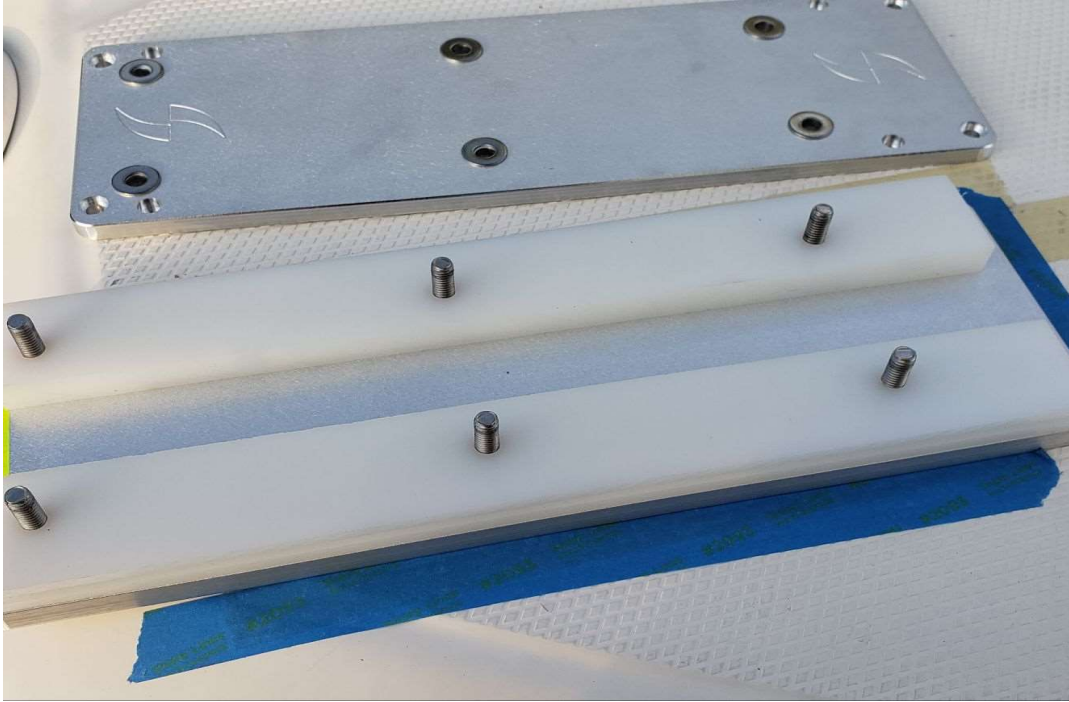

Figure 10.
- Remove the top of the mount assembly as shown in Figure 10